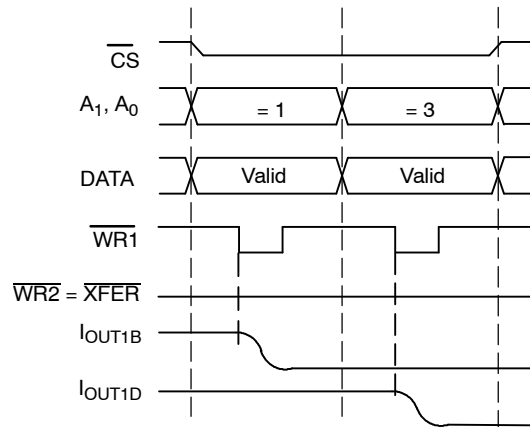

Figure 8. Individual DAC Update
2) Individual DAC update. The condition $\overline{WR2} = \overline{XFER} = \text{low}$ makes the DAC latches transparent. A writing to the B1/B2 latches updates the DAC outputs (Figure 8.).